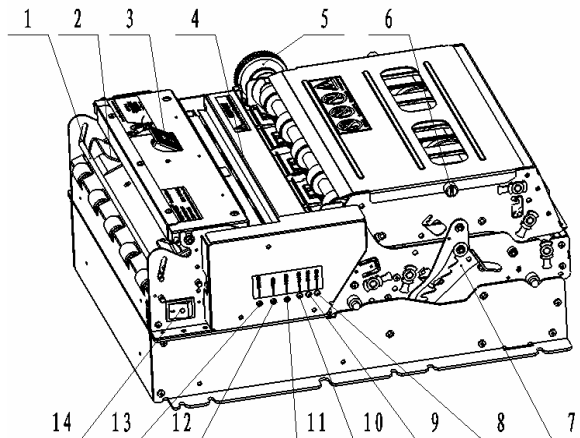
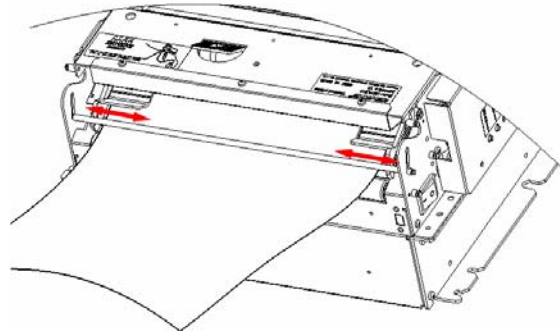

Fig. 3.3.1 Printing unit parts
Fig.3.3.2 Paper guide module
- **Paper guide module** –It is the paper forward path before the print shown as Fig.3.3.1 and Fig.3.3.2. The module with two parts which move to right or left can center paper relative to the print head for adapting different paper width from 210mm to 216mm.